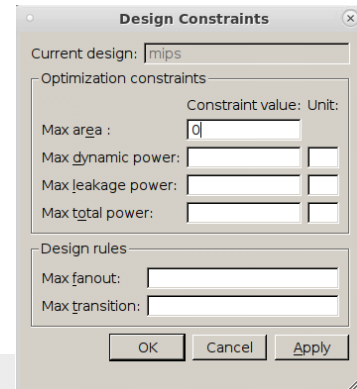

Figure 9: Defining area constraint
2. Specify a Max area of 0 as depicted in Fig 9. This is not realistic but this will tell DC to minimize the area without too much computation effort.